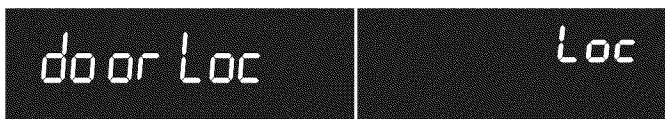

Figure 19: Display showing door locking and in locked position
2. Press and hold **Oven Lockout** for 3 seconds. **door Loc** will appear in the display. (Figure 19) The motor driven door latch mechanism will begin locking the oven door automatically. Do not open the oven door. Allow about 15 seconds for the oven door to completely lock. Once door is locked, **Loc** will appear in the display.